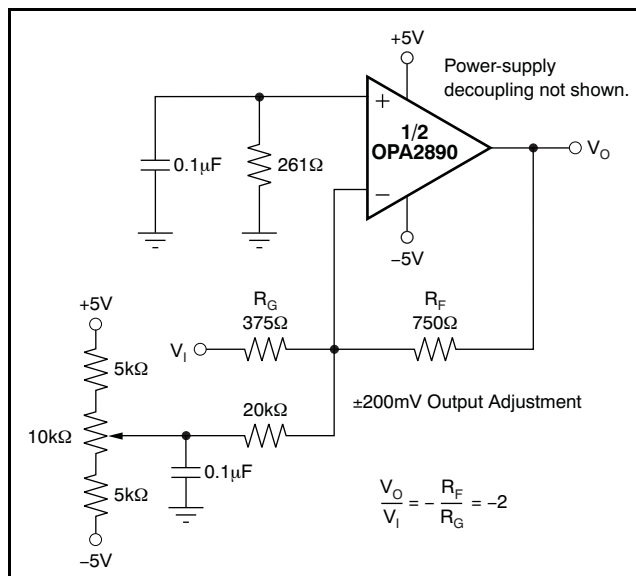

Figure 61. DC-Coupled, Inverting Gain of -2, with Offset Adjustment
A fine-scale output offset null, or dc operating point adjustment, is often required. Numerous techniques are available for introducing dc offset control into an op amp circuit. Most of these techniques eventually reduce to adding a dc current through the feedback resistor. In selecting an offset trim method, one key consideration is the impact on the desired signal path frequency response. If the signal path is intended to be noninverting, the offset control is best applied as an inverting summing signal to avoid interaction with the signal source. If the signal path is intended to be inverting, applying the offset control to the noninverting input may be considered. However, the dc offset voltage on the summing junction sets up a dc current back into the source that must be considered. Applying an offset adjustment to the inverting op amp input can change the noise gain and frequency response flatness. For a DC-coupled inverting amplifier, Figure 61 shows one example of an offset adjustment technique that has minimal impact on the signal frequency response. In this case, the dc offsetting current is brought into the inverting input node through resistor values that are much larger than the signal path resistors. This configuration ensures that the adjustment circuit has minimal effect on the loop gain and thus, the frequency response.
d) Connections to other wideband devices on the board may be made with short, direct traces or through onboard transmission lines. For short connections, consider the trace and the input to the next device as a lumped capacitive load. Relatively wide traces (50mils to 100mils , or 1.27mm to 2.54mm) should be used, preferably with ground and power planes opened up around them. Estimate the total capacitive load and set R_S from the plots of Figure 15 and Figure 36. Low parasitic capacitive loads ($< 3\text{pF}$) may not need an R_S because the OPA2890 is nominally compensated to operate with a 2pF parasitic load. Higher parasitic capacitive loads without an R_S are allowed as the signal gain increases (increasing the unloaded phase margin; see Figure 61). If a long trace is required, and the 6dB signal loss intrinsic to a doubly-terminated transmission line is acceptable, implement a matched impedance transmission line using microstrip or stripline techniques (consult an ECL design handbook for microstrip and stripline layout techniques). A 50Ω environment is normally not necessary on board, and in fact, a higher impedance environment improves distortion as shown in the distortion versus load plots. With a characteristic board trace impedance defined (based on board material and trace dimensions), a matching series resistor into the trace from the output of the OPA2890 is used as well as a terminating shunt resistor at the input of the destination device. Remember also that the terminating impedance is the parallel combination of the shunt resistor and the input impedance of the destination device; this total effective impedance should be set to match the trace impedance.